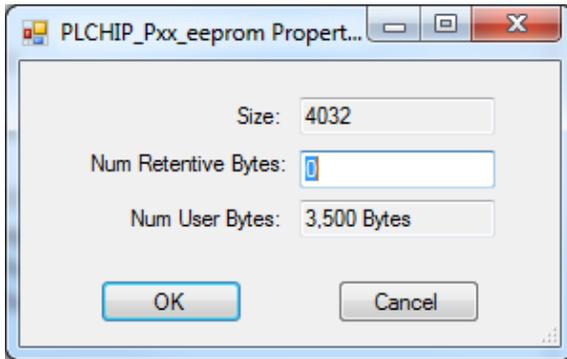

Figure 2-17 - PLCHIP Pxx_eeprom Properties
5. Click **OK**. The **PLCHIP_Pxx_eeprom Properties** dialog will open. Leave the default settings (Num Retentive Bytes set to 0). See Figure 2-17. Click **OK**.